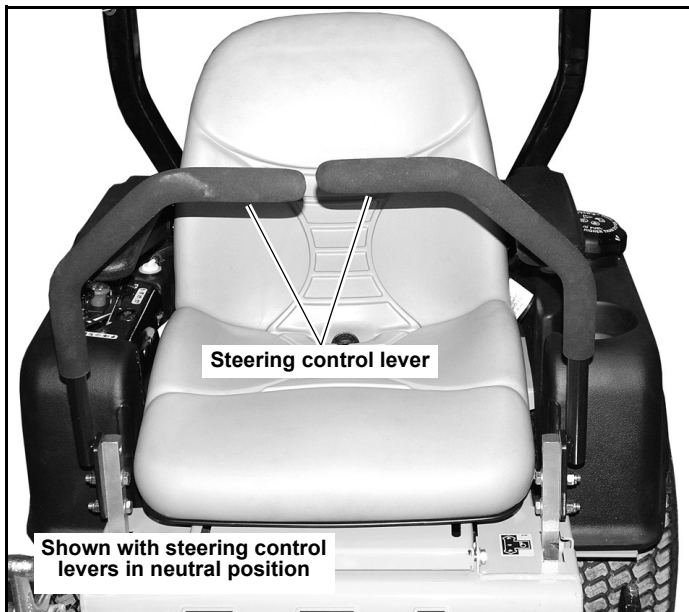
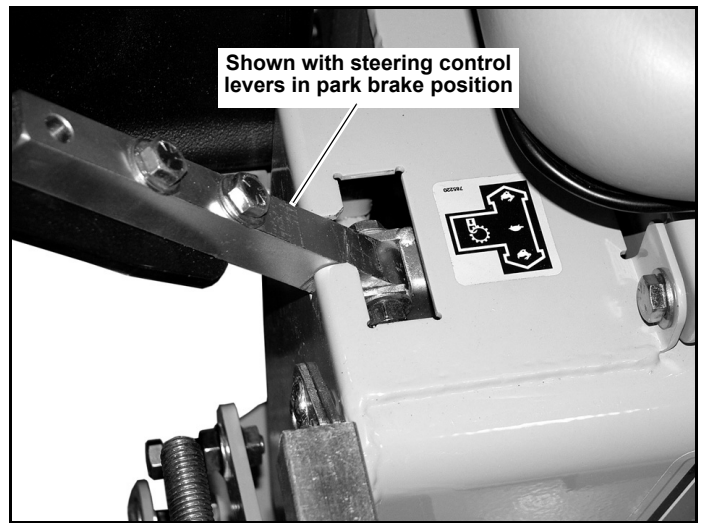

Figure 3-3
Figure 3-4
A. Steering control levers (Figure 3-3 & Figure 3-4) — these levers control the mower’s speed, direction,